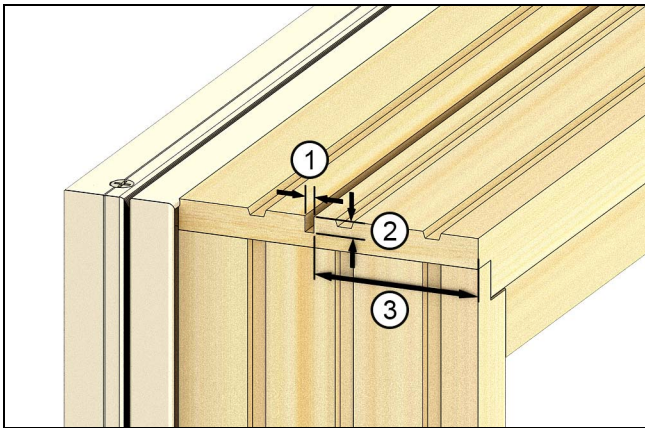

Figure 14
1. MRF KERF: If the units in your assembly have not been prepped for MRF and have no accessory kerf in the wood sides of the jamb, you will need to cut a 1/8" wide by 1/4" deep kerf. Use a circular saw and guide to cut the kerf 2 1/4" (32) from the edge of the frame. See Figure 14